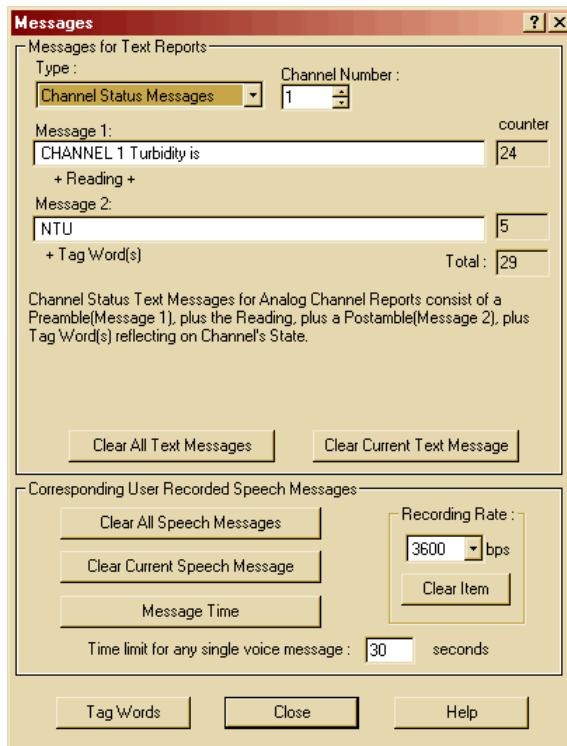

Figure 39: Messages, Channel Status Messages
38. Click the **down arrow** in the **Type** drop down list and select **Channel Status Messages**. This is where you edit the channel message that will show up in your reports. For example if you want channel 1's message to read: **CHANNEL 1 Turbidity is 0.085 NTU**, where 0.085 is the current value, you would edit the dialog for Channel Number 1 as shown Figure 39. You can edit other channels by changing the **Channel Number**.